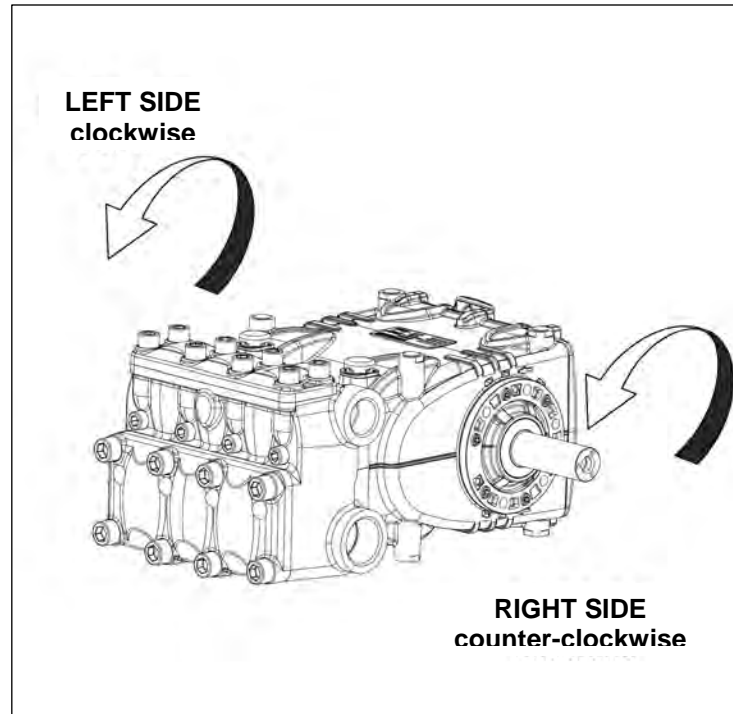

fig. 5
The rotation direction is indicated by an arrow located on the casing near the drive shaft. From a position facing the pump head, the rotation direction will be as in fig. 5
**Note.** The version shown in fig. 5 is right.